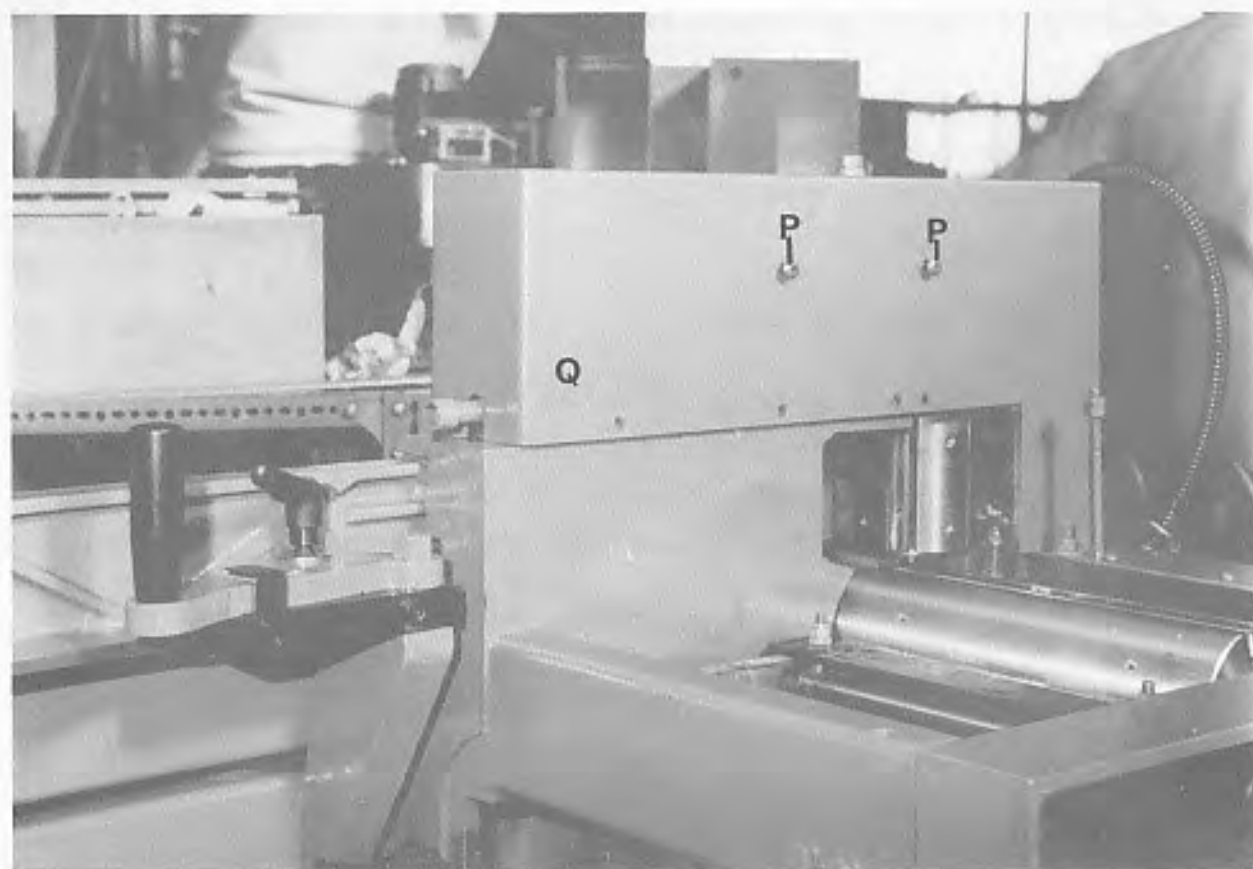

Fig 30
- 4) Remove 7 - M8 button head screws "P" FIG.30. Remove top side head guard "Q". (5 are located at Surfacers side and 2 at thicknesser side).